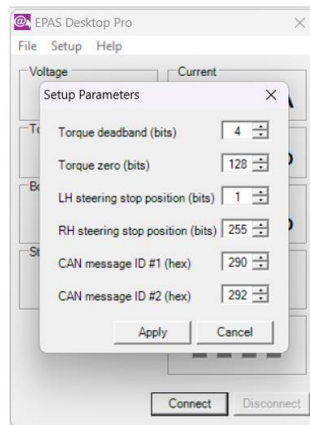

Figure 7 - Setup Parameters Dialog (Factory Settings)
1. Select the **Setup** → **Parameters** option from the main menu. The Setup Parameters dialog (Figure 7) is displayed.